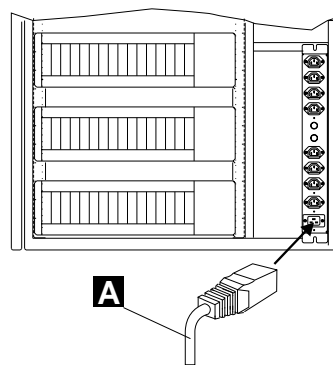

Figure 1-43. Power Cord for Power Strip
22. ____ If it is not already plugged, connect the main power cord **A** coming from the ac outlet distribution box to the customer receptacle (refer to Figure 1-43).